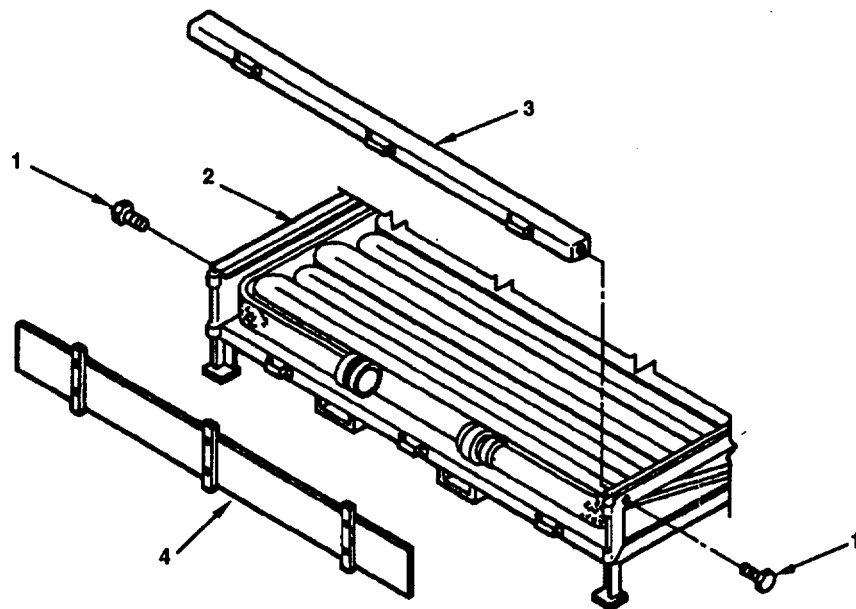

Figure 2-31. Tailgate Assembly Removal.
- d. Remove two screws (Figure 2-31, 1) on rear of bottom flaking box (2) that secure tie bar (3) to flaking box (2).
- e. Lift and remove tie bar (3) from flaking box (2).
- f. Lift and remove tailgate assembly (4).
- g. Install tie bar (3) on flaking box (2).
- h. Install two screws (1). Tighten screws (1) until tie bar (3) is firmly secured to flaking box (2).